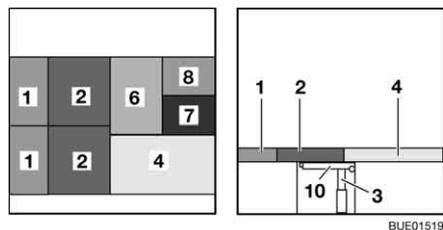

Fig. 157 After conversion
- Lay the seat cushions (Fig. 157,2) on the table and the seat box extension.
- Place the back cushion (Fig. 157,6) on the table.